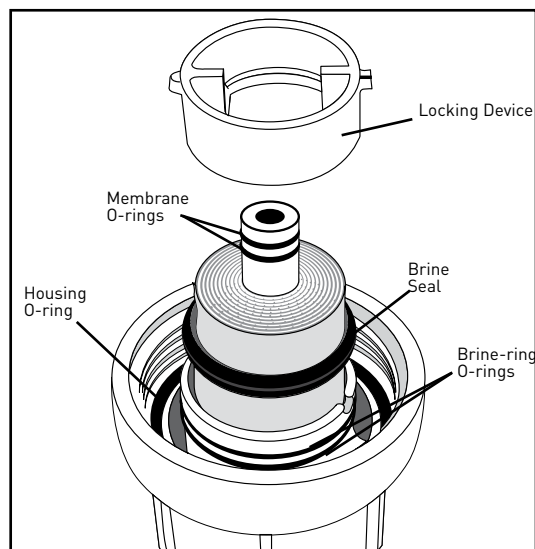

Figure 29
18. Lightly lubricate the inside of the membrane (middle) threaded cap (Figure 29).
19. Lightly lubricate both sides of the brine seal (Figure 29).
21. After the membrane is seated, lightly lubricate the two small o-rings at the end of the membrane. Also, lightly lubricate both brine ring o-rings (Figure 29).